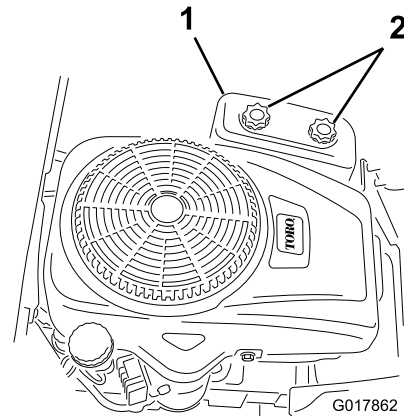

Figure 27
- Remove the air cleaner cover by unscrewing the 2 knobs (Figure 27).